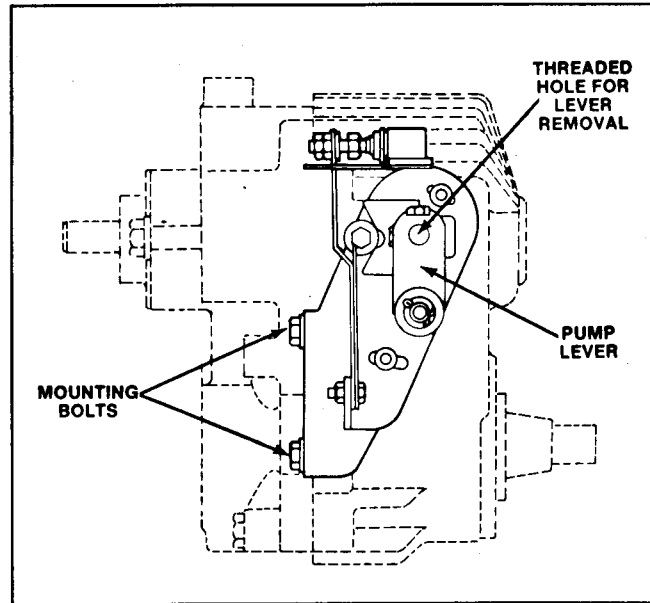

Figure 28
5. Carefully thread a two inch long, 3/8 - 16 NC cap screw into the threaded hole in the end of the pump lever (Fig. 28). Turn the cap screw clockwise to pull the pump lever off of the transmission control shaft. **DO NOT STRIKE THE PUMP LEVER WITH A HAMMER** because damage to the transmission's internal components could result.
7. Remove the two mounting bolts (Fig. 28) that attach the neutral return device/transmission interlock assembly to the transmission.